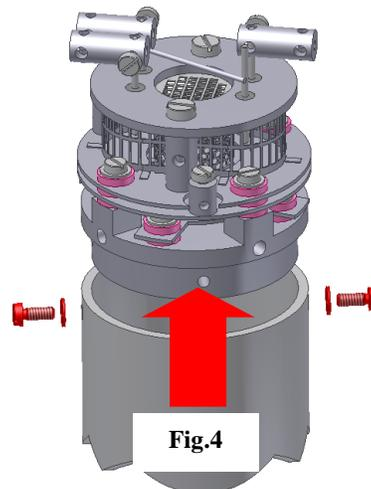

Fig.4
5. Remove the filament plate assembly. Carry out this step carefully so as not to damage the filaments or source cage, see Fig.4.
6. Carefully withdraw the source assembly from the filter, Fig.4.